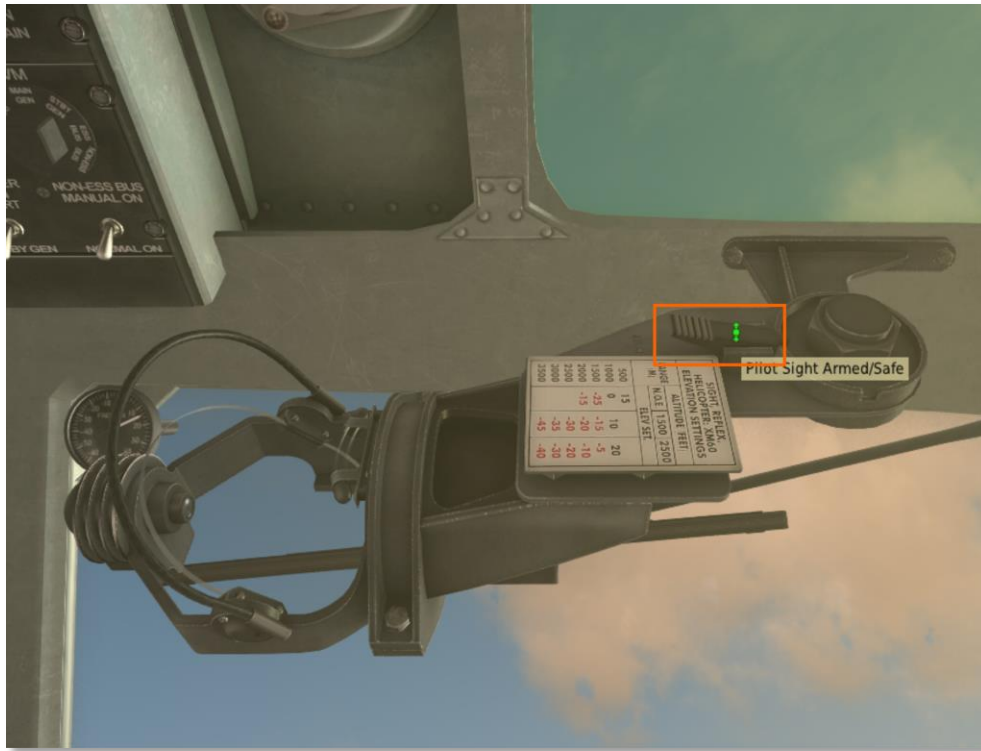

Figure 8.12. The locking lever of the XM60 infinity sight.
- a) Depress the locking lever to disengage the sight from the stow indent [LMouse click] or [RShift+M] (see Figure 8.7, Figure 8.12),